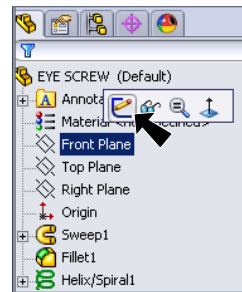

Fig. 20
Step 1. Click **Front Plane**  in the Feature Manager and click **Sketch**  from the Content toolbar, Fig. 20.